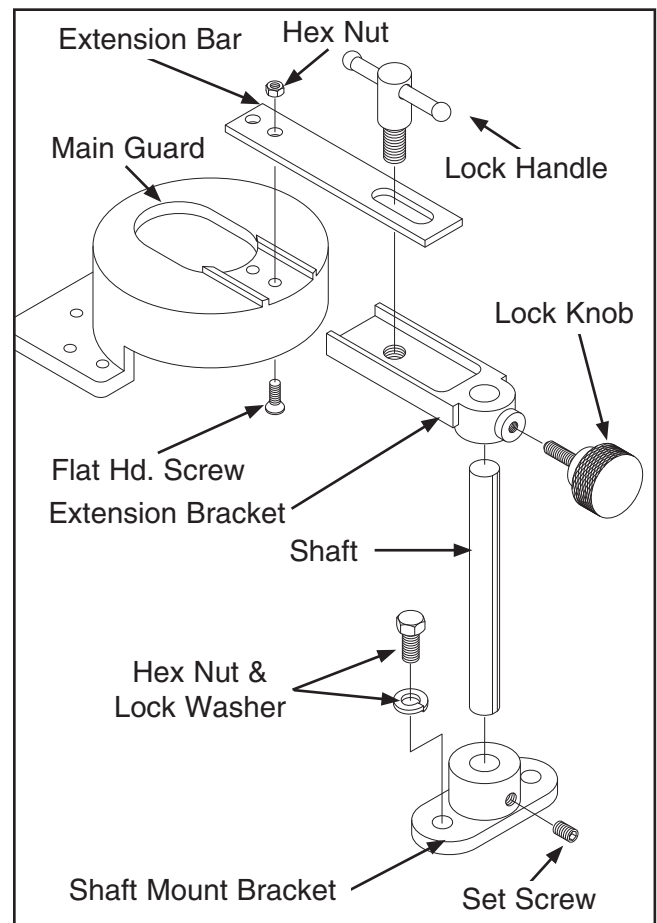

Figure 22. Guard assembly.
1. Attach the shaft mount bracket (see **Figure 22**) to the back of the table with the hex bolts and lock washers already mounted to the table.
2. Insert the shaft (see **Figure 22**) into the bracket so the flat surface faces away from the machine.
3. Slide the extension bracket (see **Figure 22**) through the shaft and secure it with the lock knob.
- Using the two $\frac{1}{4}$ " - 20 x $\frac{5}{8}$ " flat head screws and hex nuts, tightly secure the extension bar to the main guard (see **Figure 22** on **Page 20**).